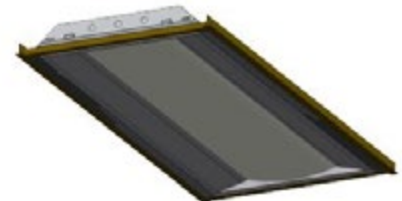

Fig.1.6
8. Raise the frame and push up into the existing fixture and close the latches. The latch should lock into the previously installed universal frame brackets(Fig.1.6).